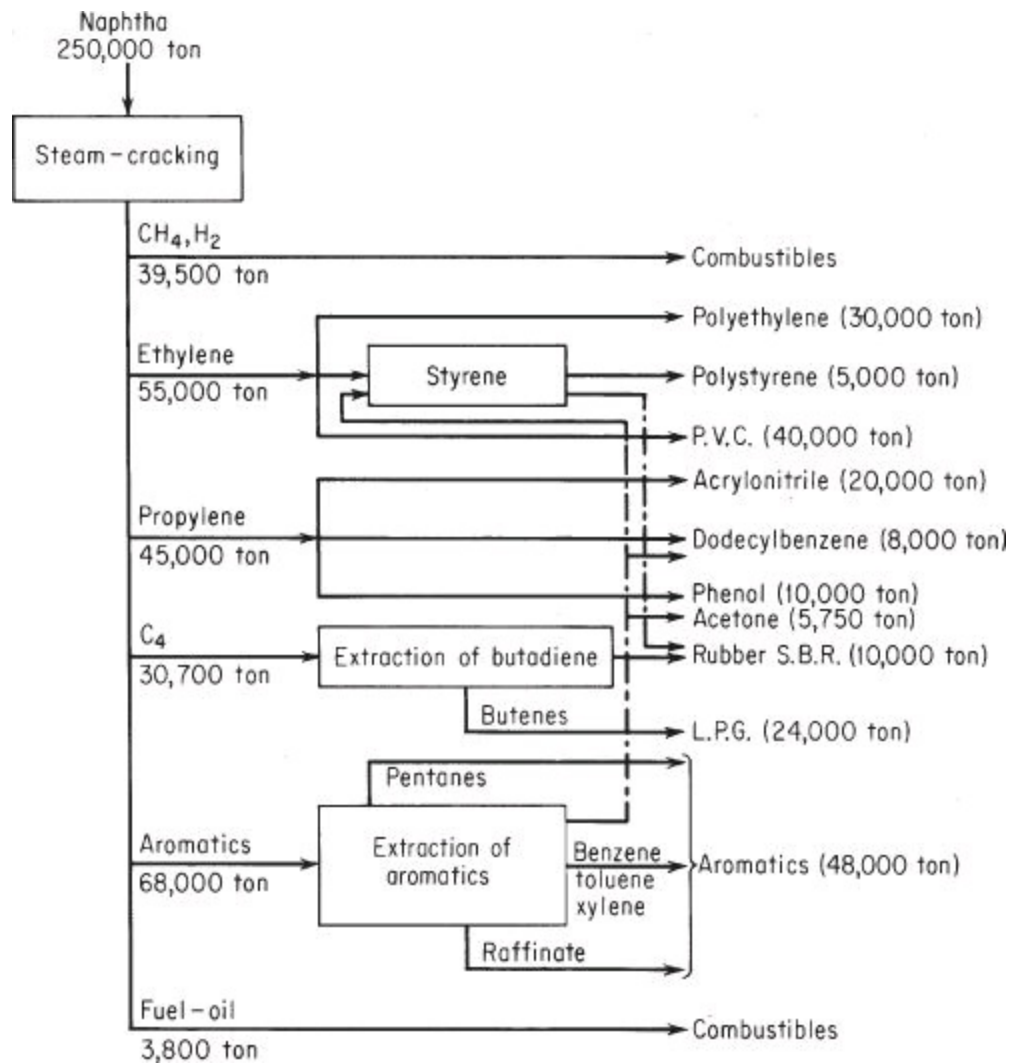

Figure P3.1.16
***3.1.16. Examine the flowsheet in Figure P3.1.16. Does the mass in equal the mass out? Give one or two reasons why the mass does or does not balance.